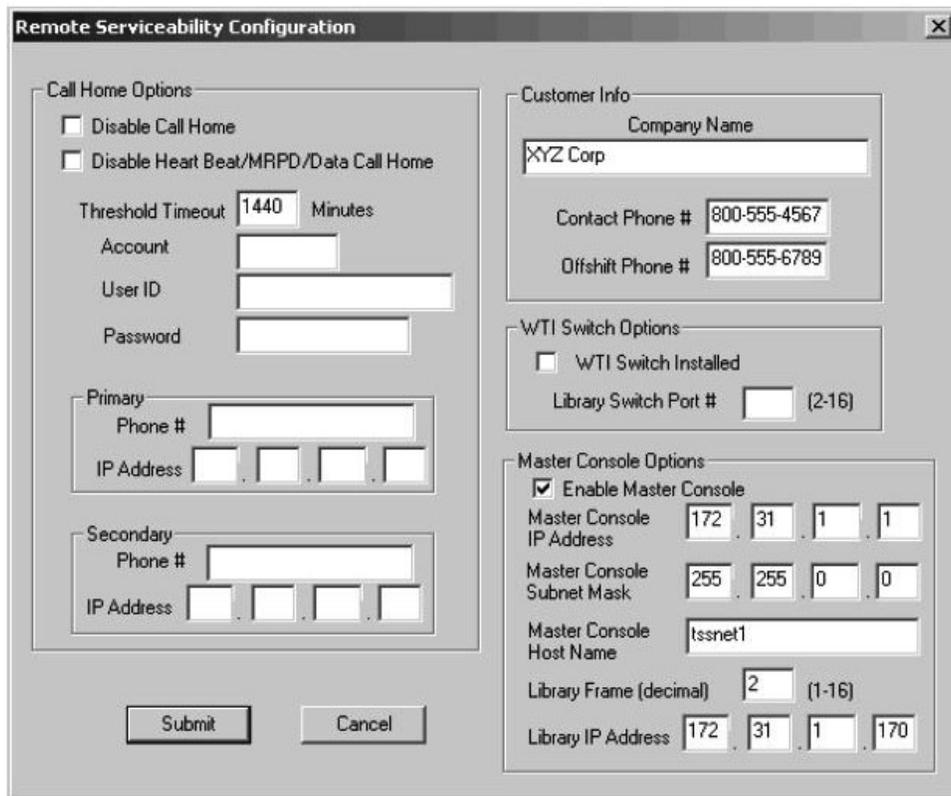

Figure 54. Remote Serviceability via System Console
3. When the CETool screen displays, click Configure Remote Service. You see Figure 54 on page 43.